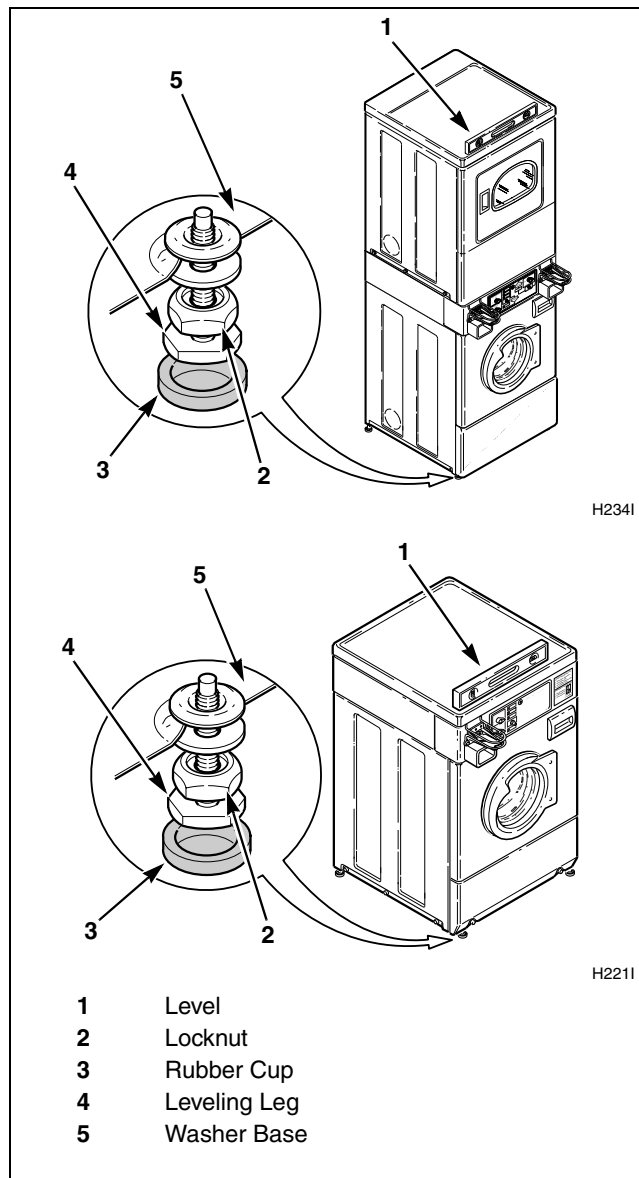

Figure 1
**NOTE: Level must rest on raised portion of top panel. Refer to Figure 1.**